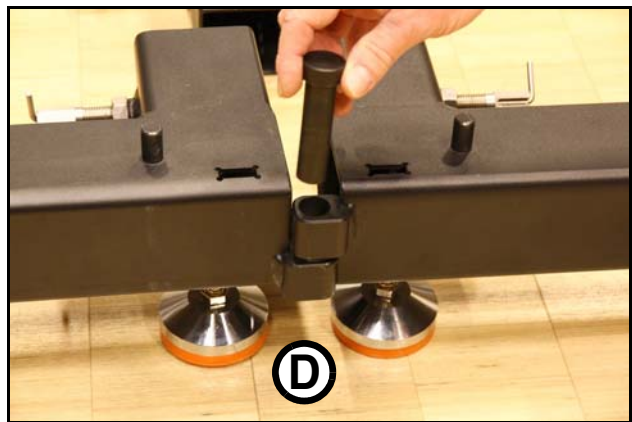

Figure 10: Linking base units
4. See Figure 10. Push the supplied pins through the holes at the edges of base units to link base units together in a straight line.